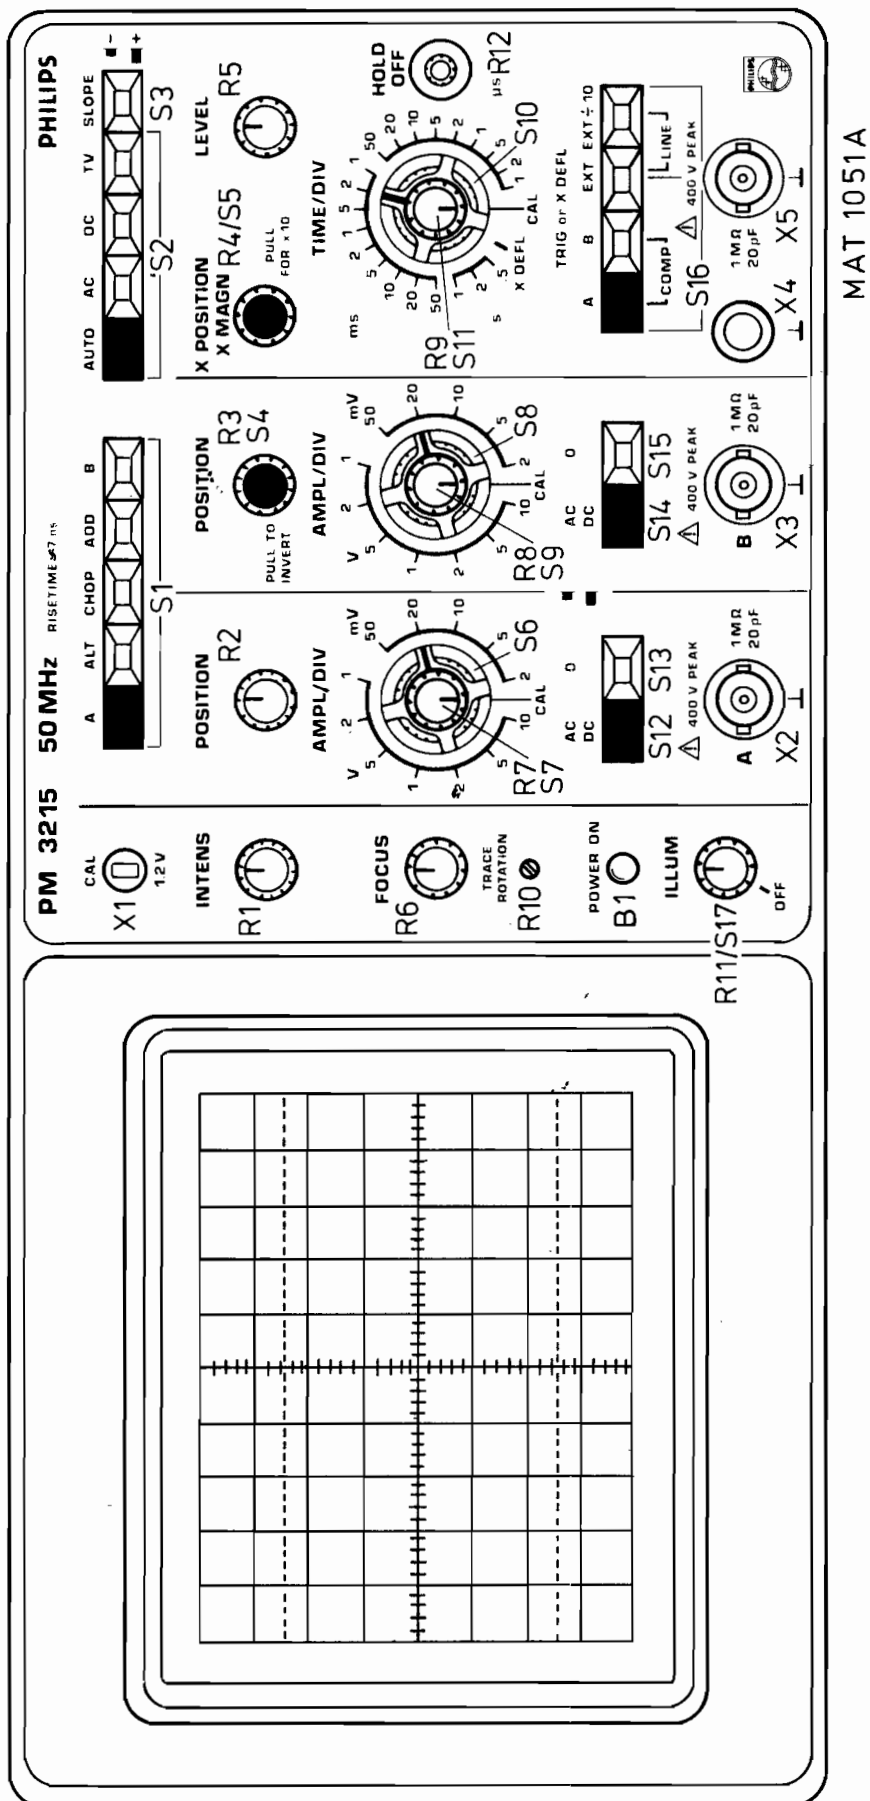

Fig. 4.1. Preliminary settings of the controls
- Depress the controls as indicated in figure 4.1.